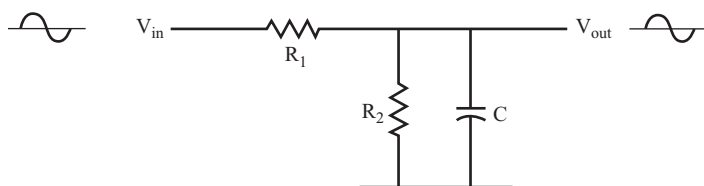

FIGURE 6.32
**26** The circuit shown in Figure 6.32 is a common variation on the low-pass filter circuit introduced in problem 15.